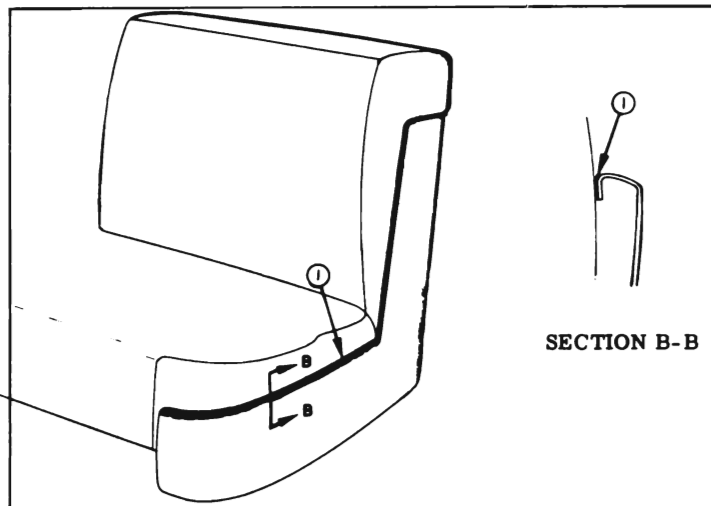

Figure 1-16—Lubrication of Seat Side Panel
16. *Front Seat Side Panels—Cars Equipped with Royalite or Leather Seat Side Panels and Leather Seat Trim.* Apply a light coat of stick type lubricant along upper edge of front seat side panel indicated at "1" in section "B-B" in figure 1-16. Wipe off excess lubricant. The panel should be lubricated whenever an objectionable noise due to friction between the side panel and seat trim is present.